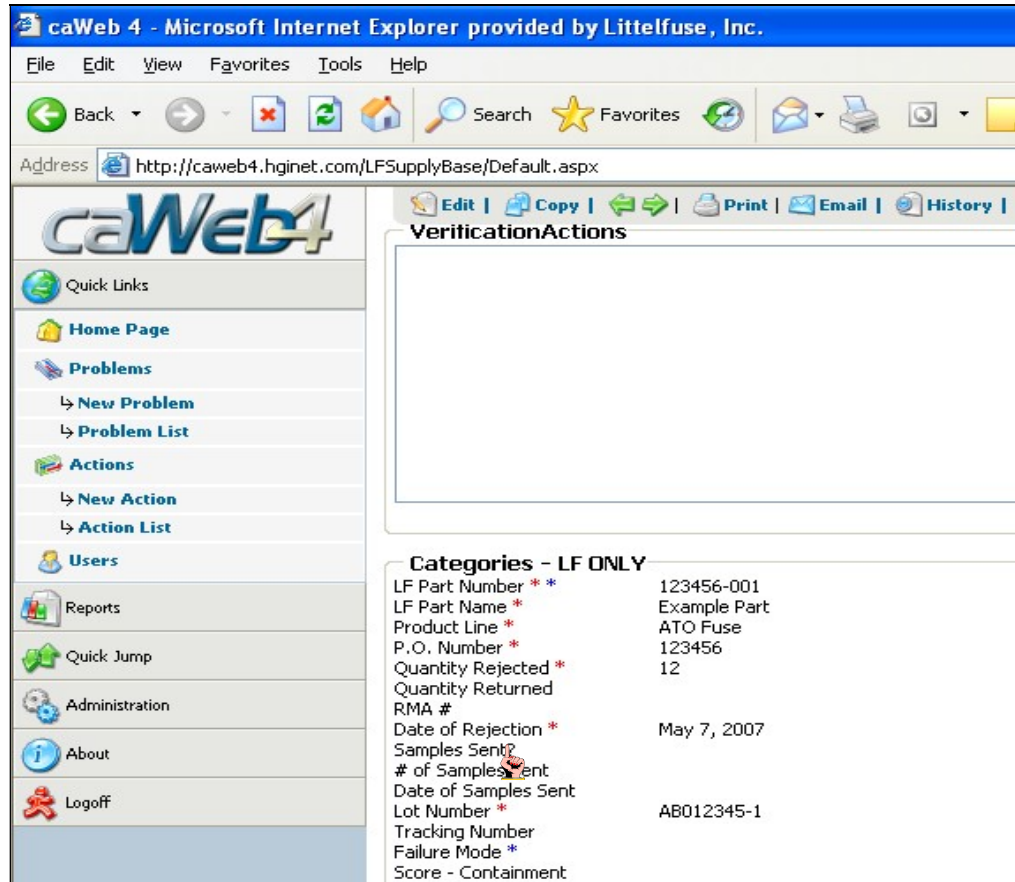

Figure 6 - Accessing an Action Item from a Corrective Action
- 6.8.2. Otherwise, an action item can be accessed from the corrective action in the Actions section (see Figure 6 below). Complete any notes or results as they become available. Please note that Action Items have due dates that are independent of the corrective action.